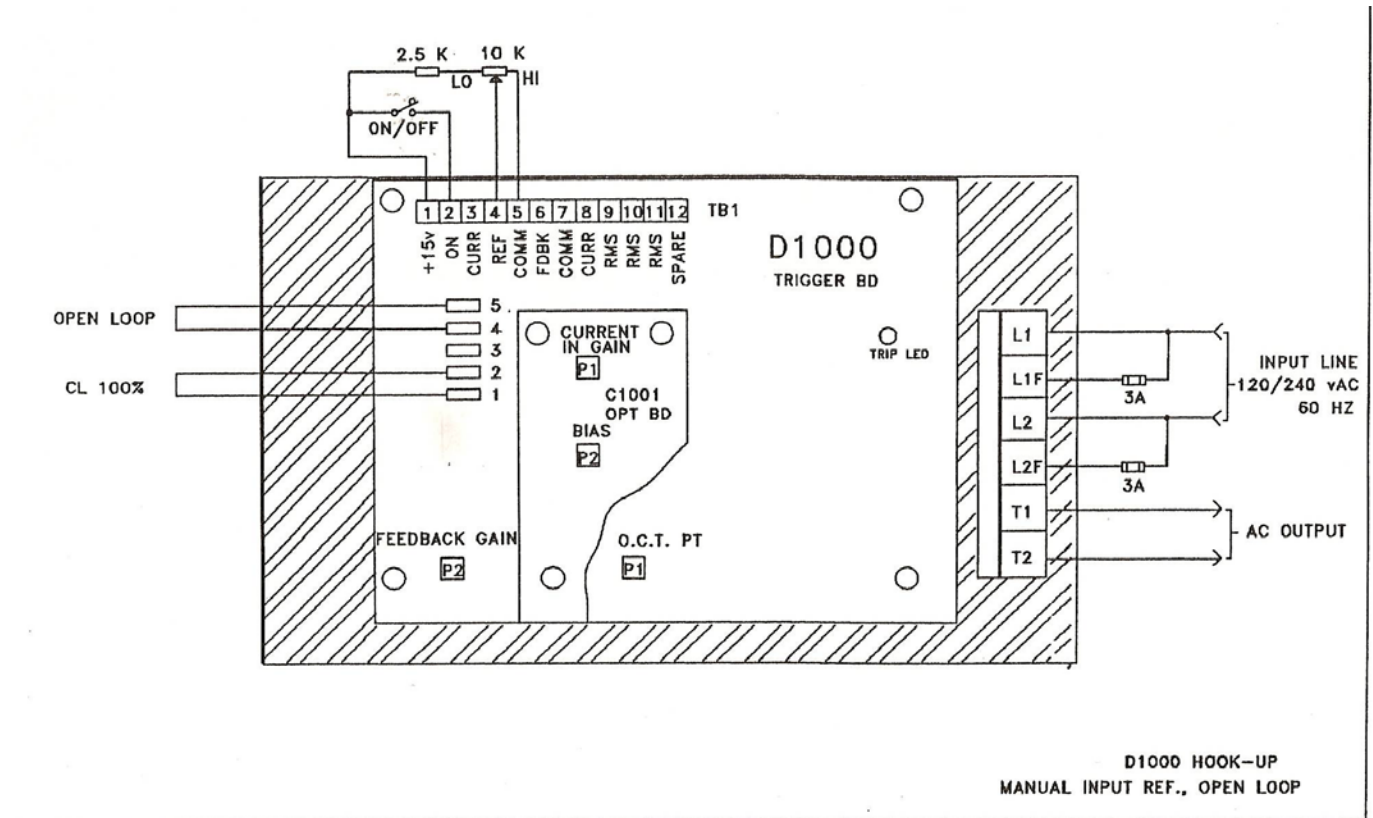

FIG. 1
- B. L1F and L2F should be fused input lines to protect the control board (see Figure 1);
1. Place a jumper between quick disconnect terminal stubs #4 and #5 (see Figure 1 or 3) to establish open loop operation;